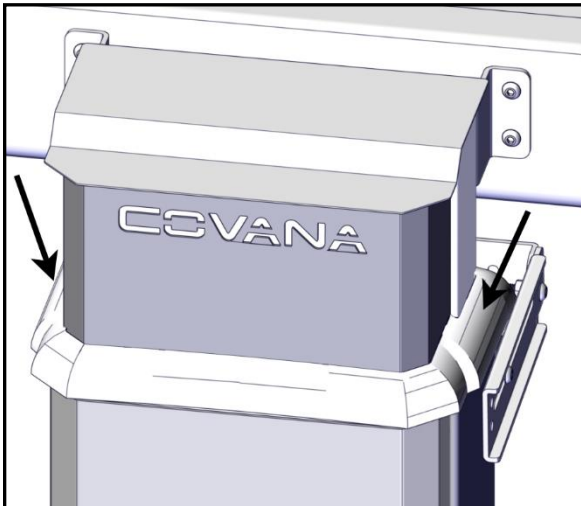

FIGURE 82: SEAL INSTALLATION
24. For all posts, slide the all-weather seals down. Ensure they are properly seated on the outer sleeve base. Push down on the seal as shown in Figure 82.